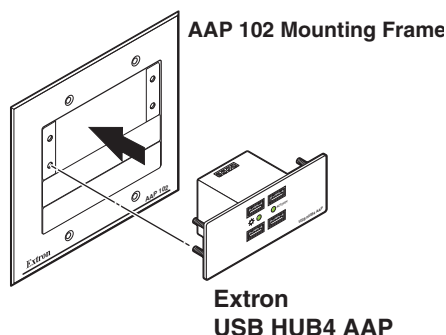

Figure 11. Mounting a USB HUB4 AAP to a Two-gang Mounting Frame
2. Attach the provided hex nuts to the studs on the back side of the frame (see figure 11).